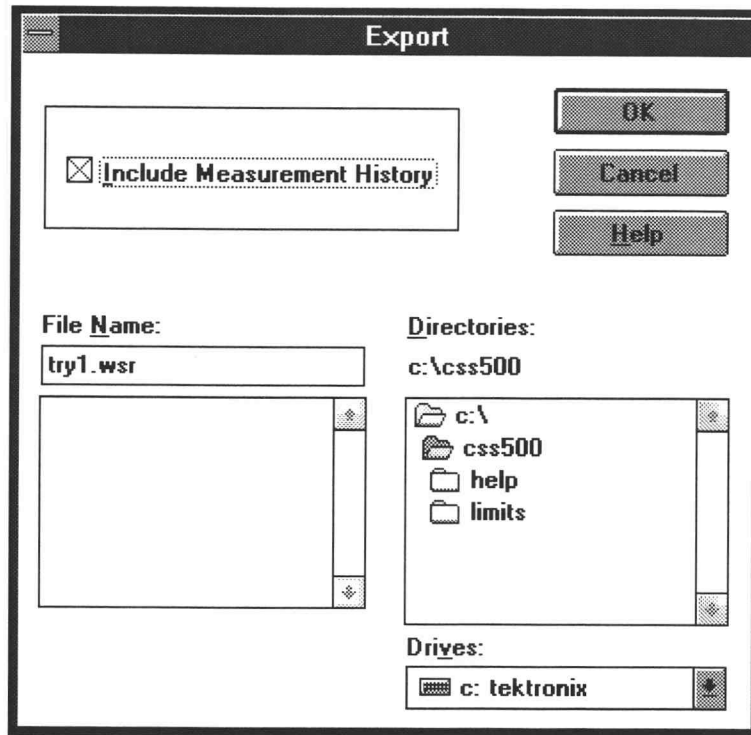

Figure 6-12. The Export dialog box.
2. From the File menu, choose Export. The Export dialog box looks similar to Figure 6-12.